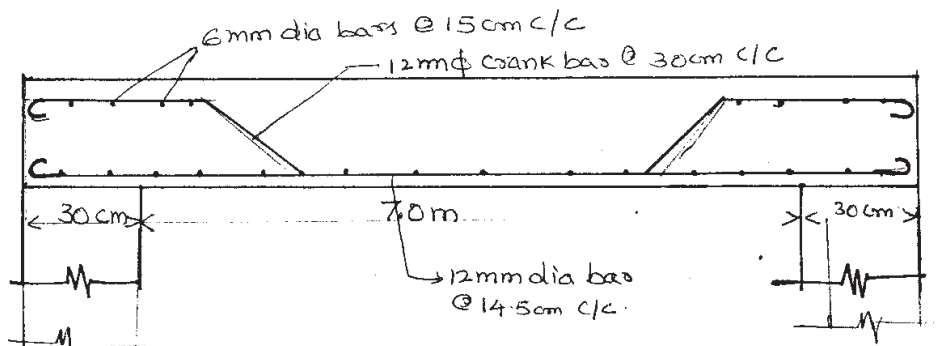

Fig 3
**Q4) a)** Fig 3, shows section along the shorter span of a room of size 7×12m internal dimension. The thickness of slab is 15cm. Assume 5cm end cover and 2.5cm cover at top & bottom. [10]